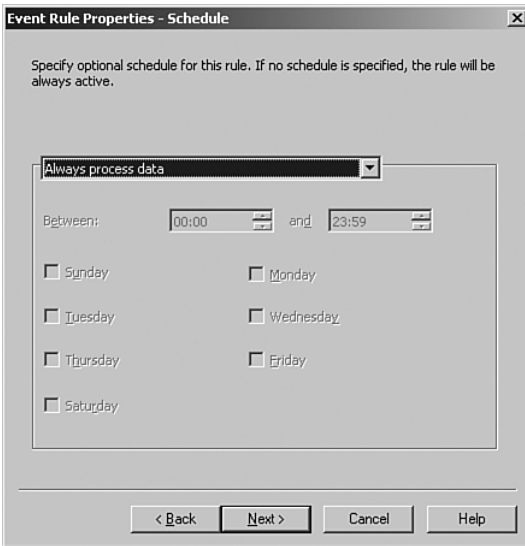

FIGURE 14.7 The Schedule screen of an event rule.
- The Schedule Event Rule Properties screen, shown in Figure 14.7, defines when the rule is in effect. The default is to Always Process Data, but there are situations when you may want rules to be in effect only during specific hours. For example, you may create a rule that applies only during business hours Monday through Friday.